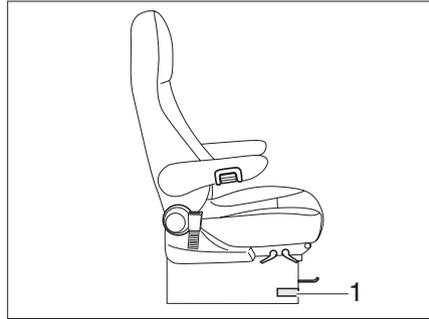

Fig. 38 Driver's seat and front passenger's seat
- ▶ Push or pull the lever to turn the seat (Fig. 38,1). The seat is released from the locking device.